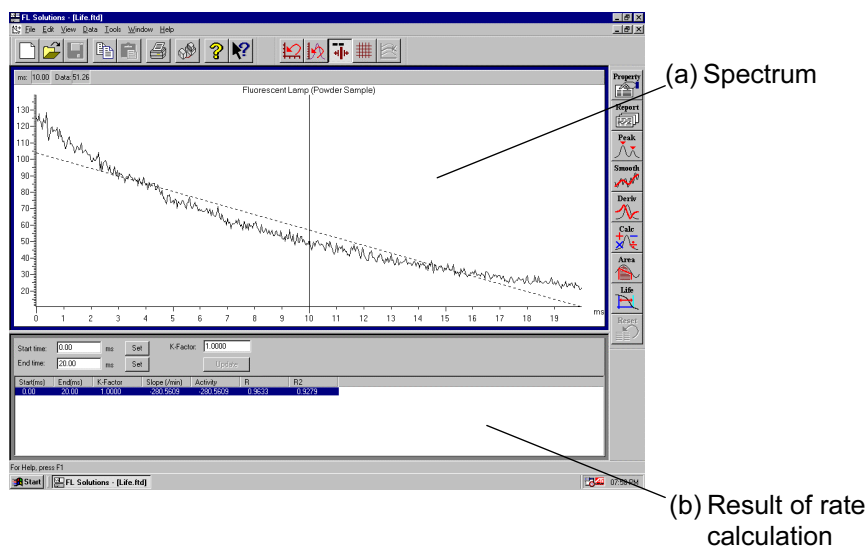
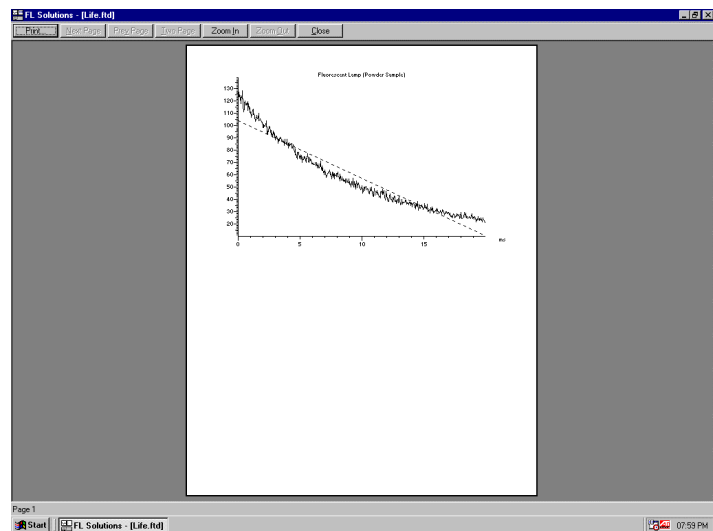

Fig. 3-12 Data Processing Window (time scan)
Fig. 3-13
- (4) When automatic saving is set, data will be saved after completion of measurement. Upon opening its file, a data processing window will appear as in Fig. 3-12. Although a peak table can be displayed, simultaneous display of rate calculation (kinetics) result and peak table cannot be selected. Fig. 3-12 shows a spectrum and the result of rate calculation. This is selectable from the View menu. Unless automatic saving is set, select the Save As command from the File menu and save data in file.
- (1) Select the Print command from the File menu. Or click the  (print) button on the toolbar. The field active on the data processing window (profiled in blue when clicked, field (a) in Fig. 3-12) will be printed. The contents, that are displayed by selecting the Print Preview command from the File menu as shown in Fig. 3-13, will be printed.